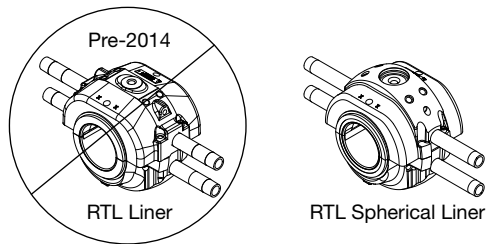

Figure 1 - Compatibility
**CAUTION:** RTL Spherical housings are not compatible with pre-2014 RTL liners, (See Figure 1).